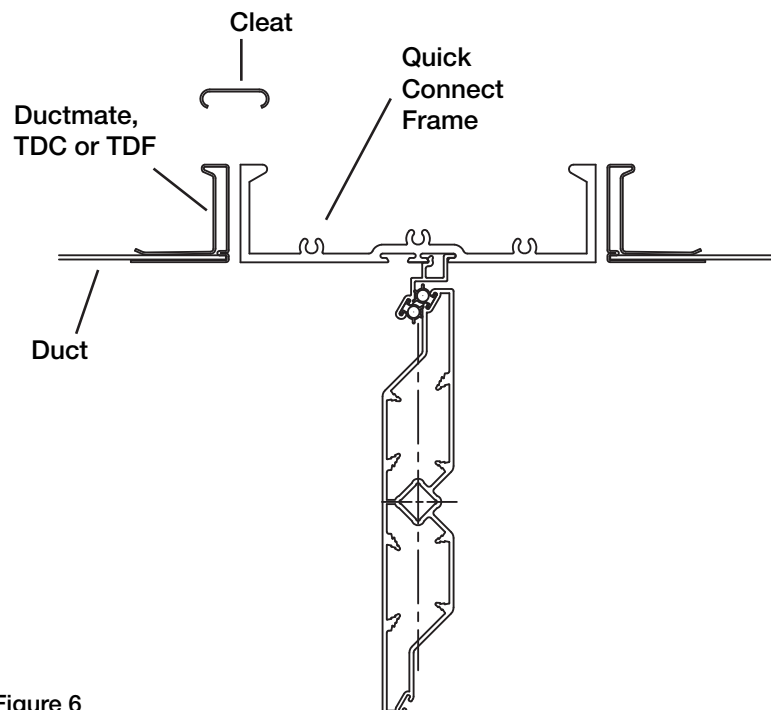

Figure 6
4. Install the metal cleat (Figure 6) or #10 tek screw with following recommended spacing: